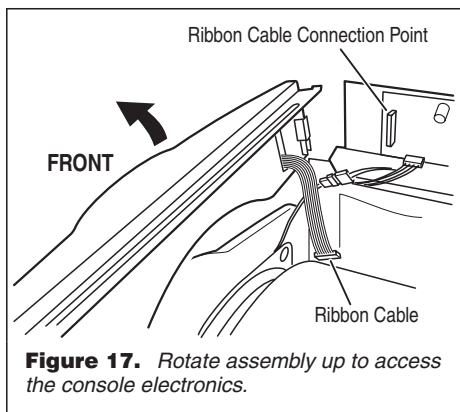

Figure 17. Rotate assembly up to access the console electronics.
- Perform steps 1 and 2 under Accessing & Removing the Electronic Assemblies, page 7, then disconnect the ribbon cables that run between the console and the machine control board. Make the disconnection at the machine control side. Remove the two screws that fasten the console assembly to dryer, then remove the console assembly, sliding it up and off the front of the machine. See figure 17.